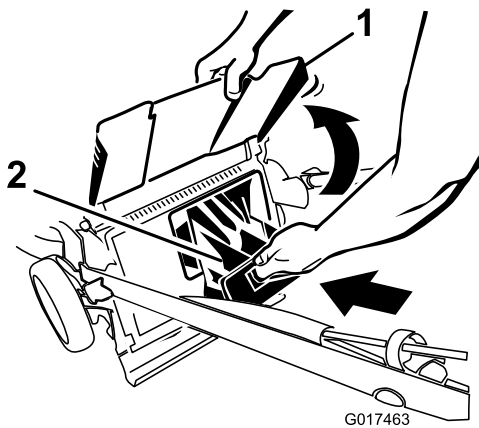

Figure 30
4. Install the rear-discharge plug (Figure 30).